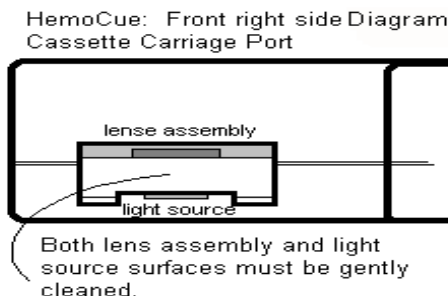

Figure 5
- e) Using a moist swab, insert the swab approximately 4-6 cm. into the center of the analyzer's cuvette opening and clean both the upper and lower surfaces. Pay particular attention to the lens assembly which is located on the top surface; it is about 1 cm. wide and 4.5 cm. into the chamber (figure 5).